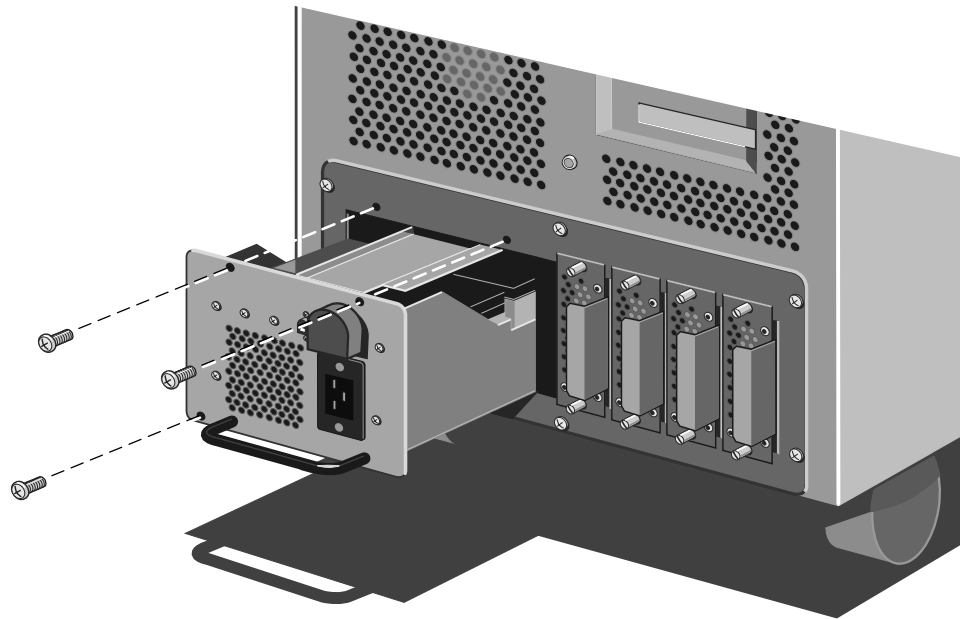

Figure 10-8 Battery Backup Unit
4. Refit the retaining screws as shown in the above Figure 10-8.